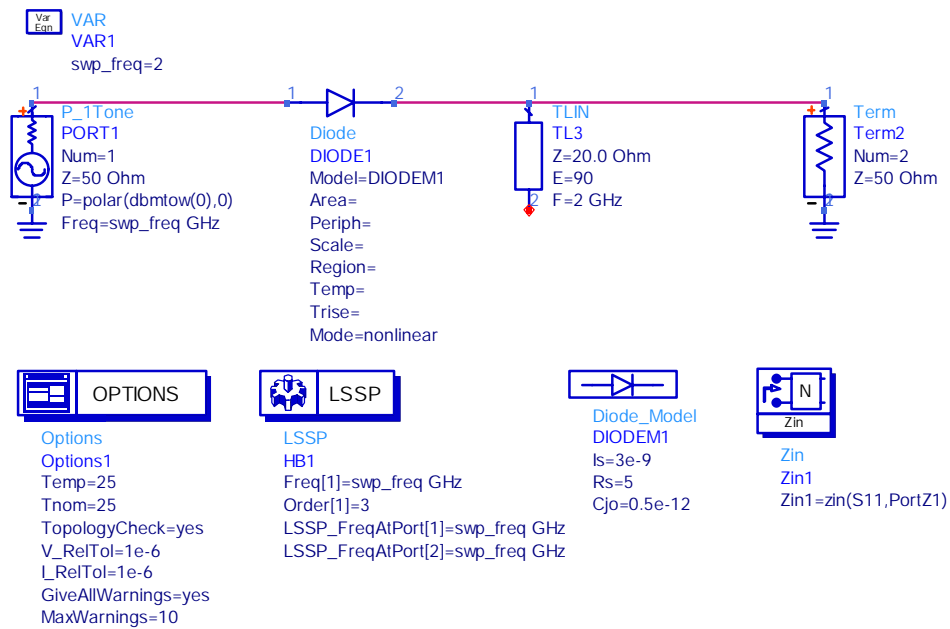

Figure 2. Initial schematic used for large-signal S-parameter simulation of the diode.
1) The first step is to create the schematic that is shown in Figure 2.
- (1) Expected range of values for  $R_j$  = \_\_\_\_\_
- (2) Expected range of values for  $C_j$  = \_\_\_\_\_
*Table 1. Large-signal simulation results for the schematic in Figure 2 at 2 GHz.*